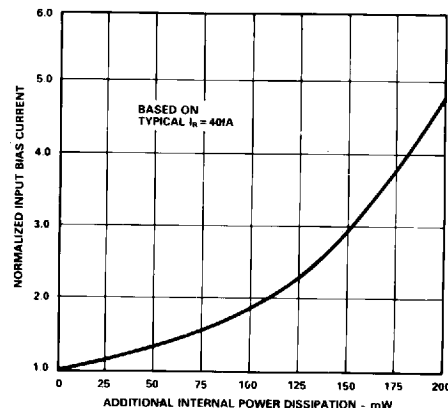

Figure 9. Input Bias Current vs. Additional Power Dissipation
3. Output loading effects, which are normally ignored, can cause a significant increase in chip temperature and therefore bias current. For example, a 2kΩ load driven at 10V at the output will cause at least an additional 25mW dissipation in the output stage (and some in other stages) over the typical 24mW, thereby at least doubling the effects of self-heating. The results of this form of additional power dissipation are demonstrated in Figure 9, which shows normalized input bias current versus additional power dissipated (it doubles every 10°C); we recommend restricting the load impedance to be at least 10kΩ.